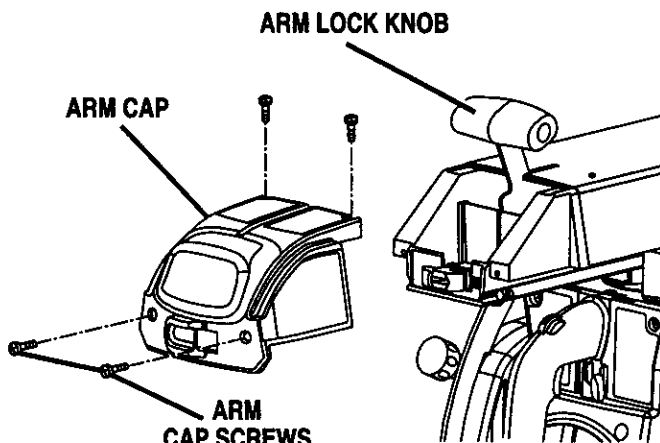

Fig. 13B
- Remove the arm cap screws and arm cap from the front of the arm with a phillips screwdriver. See Figure 13B.
- Remove the arm cap screws and arm cap at the front of the arm with a phillips screwdriver. See Figure 13B.